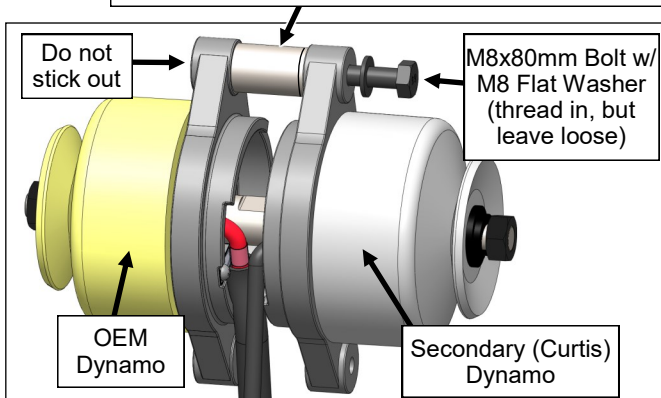

Fig. 2.5 (Install Spacer)
- 2.5 See fig. 2.5. Orient the dynamos so that the clearance mounting hole in the Curtis dynamo lines up with the threaded hole in the OEM dynamo. Install an M8 steel flat washer onto the 80mm long bolt and pass this thru the clearance ear of the Curtis dynamo, then thru the .062" thick Shim Washer, then thru the 3/4" O.D. Spacer, then thread the bolt into the threaded ear of the OEM dynamo. Do not allow the screw to protrude out the back side of the OEM ear.